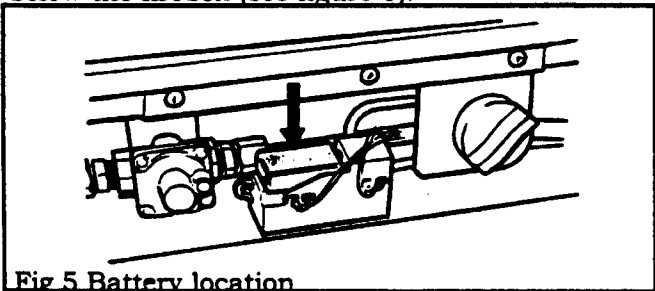

Fig 5 Battery location
6.3.1 Fit the battery to the ignition block located below the firebox (see figure 5).